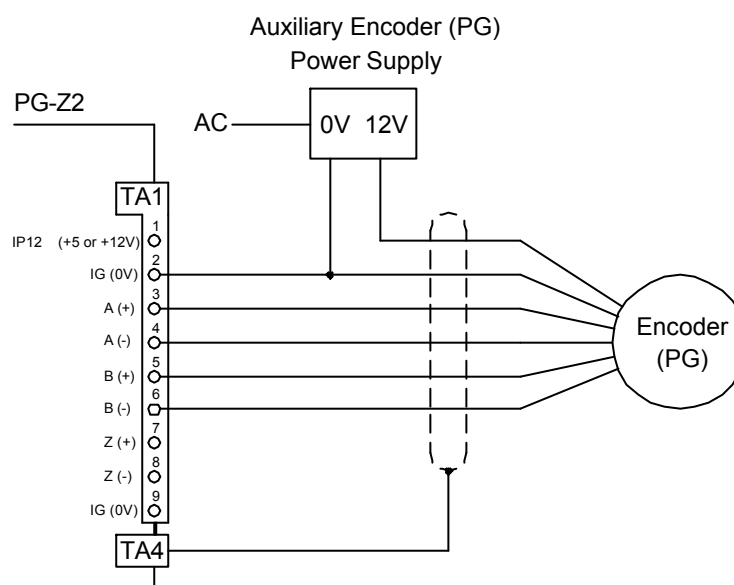

Figure 6. Connection example with encoder (PG) when using separate power supply
Maximum power available to drive the encoder (PG) with the PG-Z2 is 200mA. Should your encoder (PG) require more than 200mA, it will be necessary to provide a separate power supply. See Figure 6.